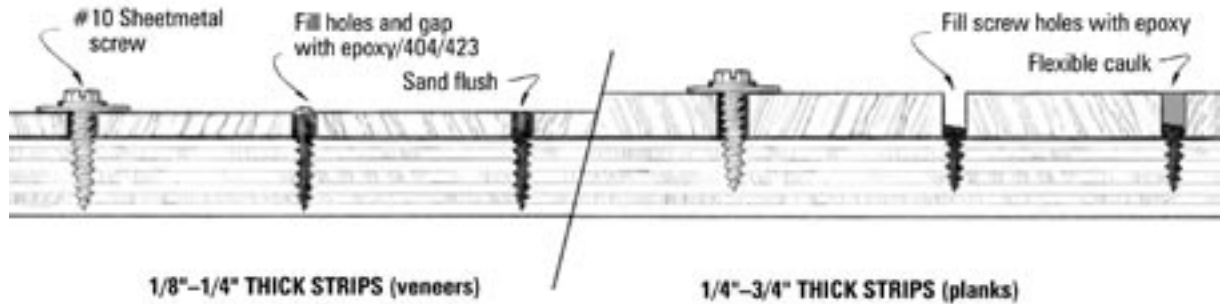

Figure 6-24 Sheet metal screws with large washers will clamp the strips in position until the epoxy/406/graphite mixture cures thoroughly.
6. Clamp the plank in place with #10 sheet metal screws and large washers. Place the screws and washers between the strips, 200mm apart. Each row of screws will clamp the edges of two adjoining planks and act as spacers (*Figure 6-24*). Coat the screws and washers with a mould release or place a small sheet of plastic under the washers to prevent bonding. Washers may also be cut from stiff plastic, thin wood lathe or similar stock with holes drilled for the screws. Tighten the screws down completely after pushing both adjoining strips tight against the screws. The epoxy mix should squeeze up between the strips. Any voids between the planks should be filled at this time with the epoxy/406/graphite blend.